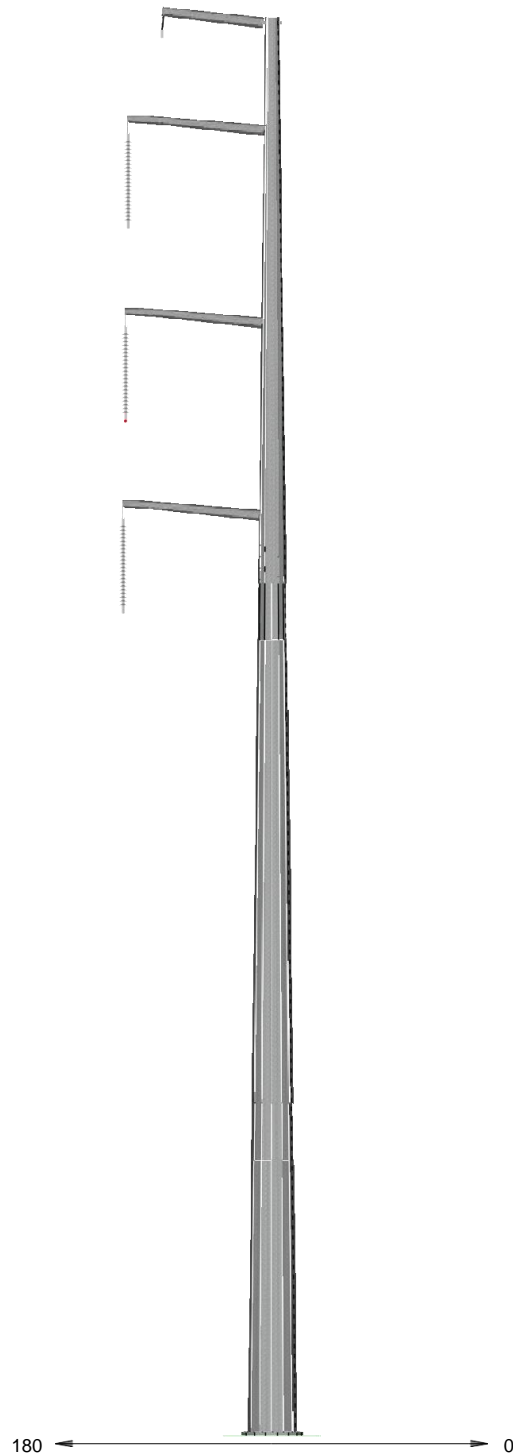

FIGURE G-9
- Figure G-9: Single-Circuit 230 kV Single-Pole, Tangent, Delta Configuration on Davit Arms with Suspension Insulators